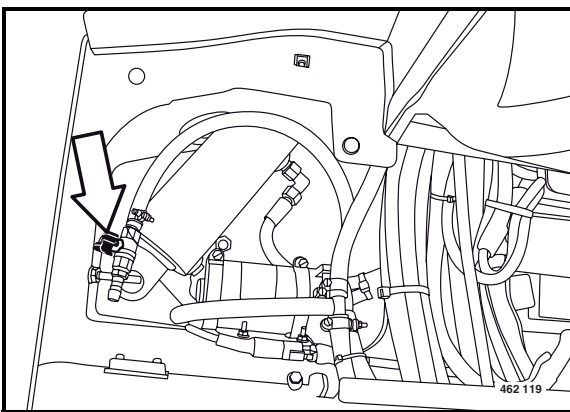

Fig. 168
- Route the hose to the outside. open the water drain tap (Fig. 168) and let all water run out.